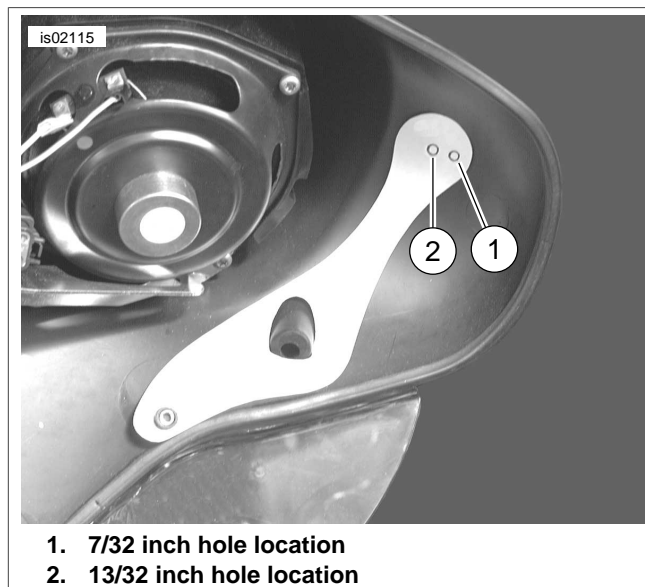

Figure 1. Positioning Template
1. See Figure 1. Place template on inside of fairing as shown to locate mounting holes for mirror.
2. Begin by drilling a 1/8 inch pilot hole at each location marked on the template. For the center hole (2) where the 3/8 inch threaded stud passes through the fairing use a 13/32 inch diameter twist drill to drill the hole to its final size. For the alignment hole (1), use a 7/32 inch diameter twist drill to drill the hole to the final size.